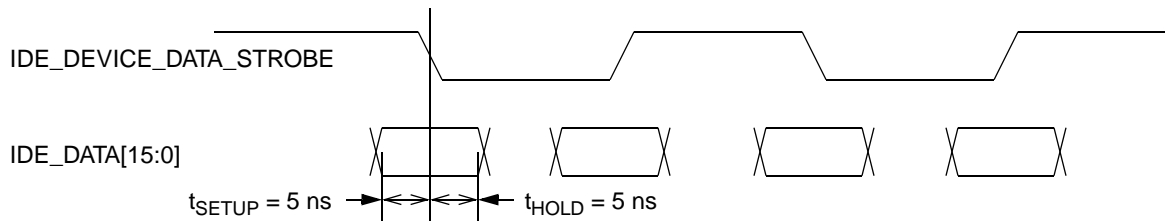

**Figure 7-6. IDE UltraDMA Data Out Timing**
- Note 3. This signal uses *Output Reference Timing* (see Figure 7-3 on page 551). Figure 7-6 illustrates IDE\_HDMA\_DS and IDE\_DATA[15:0] relationship.